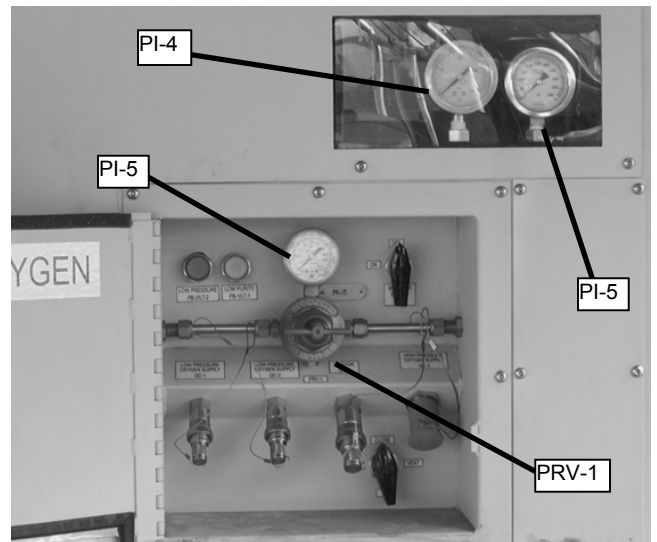

Figure 16. Oxygen Product Pressure Regulator (PRV-1).
sure to 95 psig as indicated on PI-4 (see Figure 16). Use the following steps to adjust the regulator.
- Rotate the adjusting screw until the pressure indication on PI-4 (see Figure 16) stabilizes at 95 psig. If the pressure is below 95 psig, rotate the adjusting screw clockwise. If the pressure is above 95 psig, rotate the adjusting screw counter-clockwise.
The oxygen product pressure regulator (PRV-1) should be adjusted to 85 psig as indicated on PI-5 with 0 lpm product off-take. Refer to Figure 16. Rotate the T-handle on the regulator counter-clockwise to lower the pressure and clockwise to increase the pressure.
- Observe the pressure at which the compressor stops. The pressure can be viewed on PI-5 (see Figure 16).